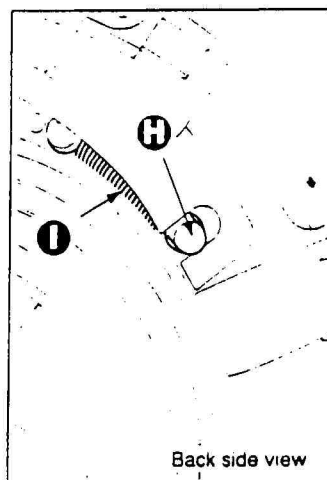

Fig. 10
At this time, pull out the aperture control pin (H), taking care not let the spring (1) expand to its full length, and remove the shutter ass'y (28). (See Fig. 10.)